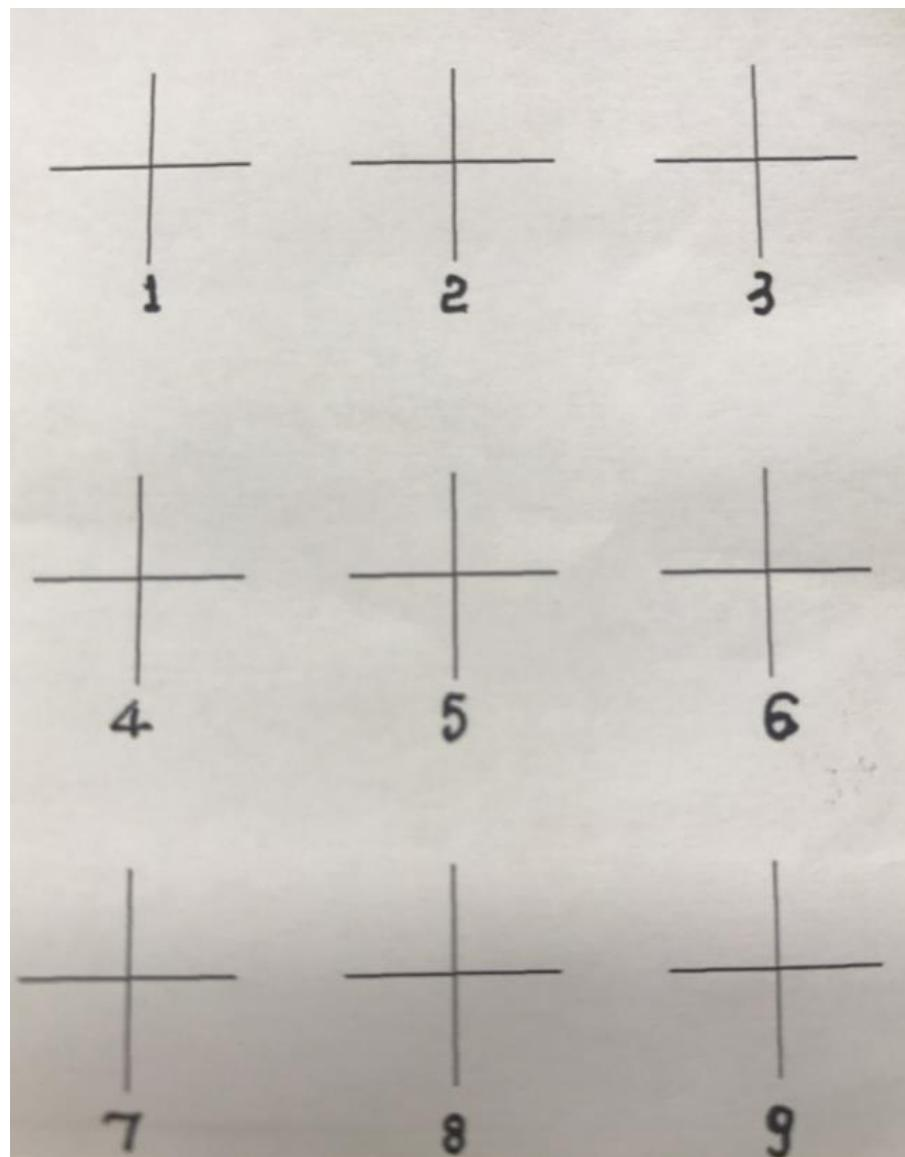

Figure 5.16 Calibration board
3. Place the calibration board on the conveyor which is in the vision search area and click **Conveyor pose** to record the current Encoder value. The calibration board is shown in Figure 5.16.